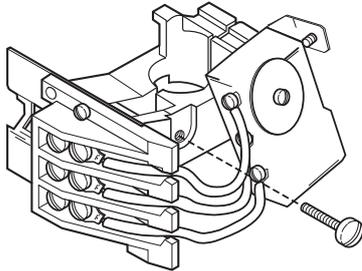

Figure 9
3. Loosen screw in split mounting clamp until mechanism slides freely on enclosing tube, refer to Figure 9.
3. Loosen screw in split mounting clamp until mechanism turns freely on enclosing tube, refer to Figure 9 on page 4.